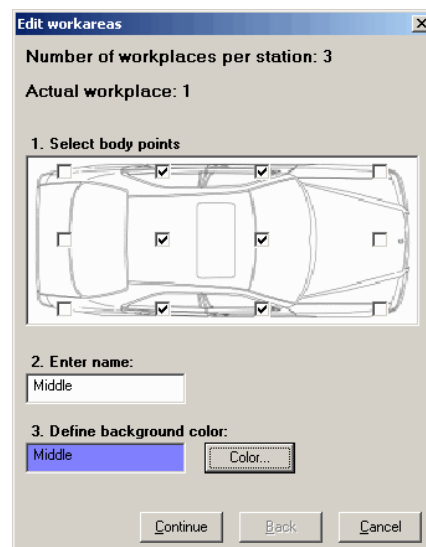

Figure 105: Example of First Workplace
In the **Work areas** dialog, each workplace is defined. You have to specify work positions (there are three in the example) for each workplace. A balancing process cannot be calculated unless each work position offered (*Please refer to the Figure 105*) has been enabled at the last workplace at the latest.
Use checkmarks to specify the work area. Please refer to the Figure 105.
- 1) To specify the work positions, checkmark the fields in **Select body points**. (Please refer to the Figure 105).
- 4) Click **Continue** in the dialog to define the next workplace. Please refer to the Figure 105.
This is due to potential overlapping of work positions. Continuing with this example, you could also now assign work positions to workplace 2 that had previously been assigned to workplace 1 (*Please refer to the Figure 105*). Workplaces that have not yet been assigned a work position will not be displayed until the last work position has been reached. *Please refer to the Figure 108*.